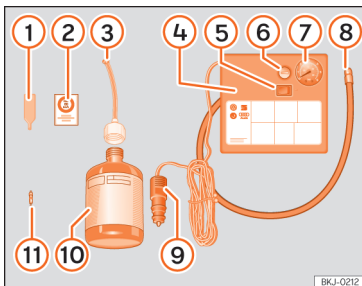

Fig. 195 Standard display: contents of the anti-puncture kit.
The anti-puncture kit is located underneath the floor covering in the luggage compartment. Includes the following components >>> **Fig. 195**:
- Unscrew the tyre valve cap and insert. Use the device >>> **Fig. 195** ① to remove the valve cap. Place it on a clean surface.
- Shake the tyre sealant bottle vigorously >>> **Fig. 195** ⑩ .
- Screw the tyre inflation hose >>> **Fig. 195** ③ into the tyre sealant bottle. The bottle's seal will break automatically.
- Remove the filler cap >>> **Fig. 195** ③ and screw the open end of the tube into the tyre valve.
- Replace the howitzer with the device >>> **Fig. 195** ① onto the tyre valve.
- Screw the tyre inflation tube of the compressor >>> **Fig. 195** ⑧ on the tyre valve.
- Check that the air evacuation screw is closed >>> **Fig. 195** ⑥ .
- Attach the connector >>> **Fig. 195** ⑨ to the vehicle's 12 volt power outlet >>> **page 174**.
- Switch on the air compressor with ON/OFF switch >>> **Fig. 195** ⑤ .
- Attach the sticker »» Fig. 195 (2) to the instrument panel display, within the driver's field of vision.
Screw in the inflator tube »» Fig. 195 (8) again and check the pressure on the gauge (7).